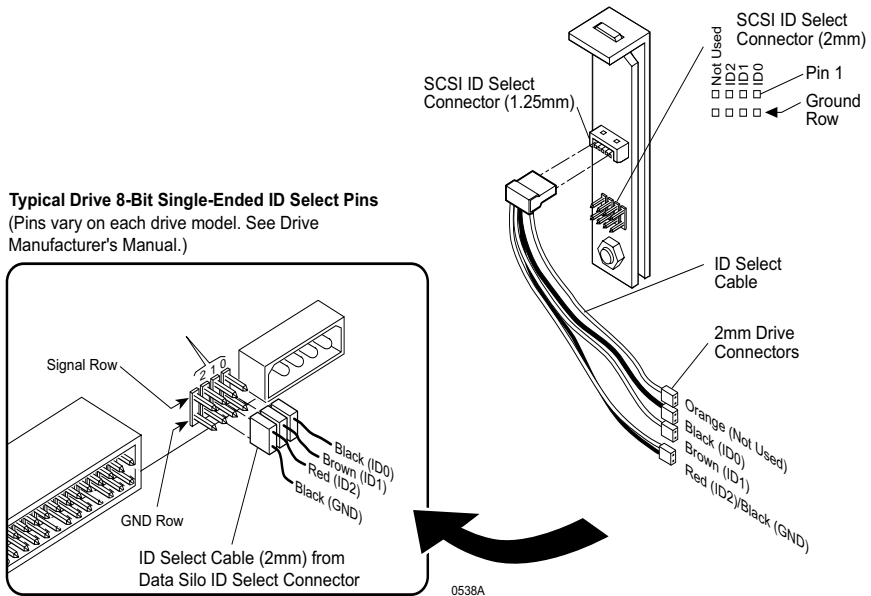

Figure 7: 8-Bit SCSI ID Cable Connection
4. **SCSI Drive ID Select Jumpers** - Locate the SCSI ID select jumper pins on the drive, and remove any jumpers on these pins. The DS100 SCSI ID cable will be attached to these pins on each drive (Figures 7 & 8).
NOTE: Depending upon the model, the DS100 uses one of two different types of SCSI ID select switch connectors. One connector contains 0.1" pin spacing with a matching SCSI ID cable. The other type of SCSI ID connector contains 2mm pin spacing with a matching SCSI ID cable (Figures 7 & 8).
The unit ID cable contains **black**, **brown**, **red/black**, and **orange** wires. Attach three (3) connectors from the SCSI ID select cable to the appropriate 2mm drive pins (Figure 7). The fourth (orange) wire is not used for the 8-bit installation.
12. Connect the ID select cable to the ID select interface connector on the rear panel of the DS100 (Figures 7 & 8).
10. Connect the ID select cable to the ID select connector on the rear panel of the DS100 (Figures 7 & 8).